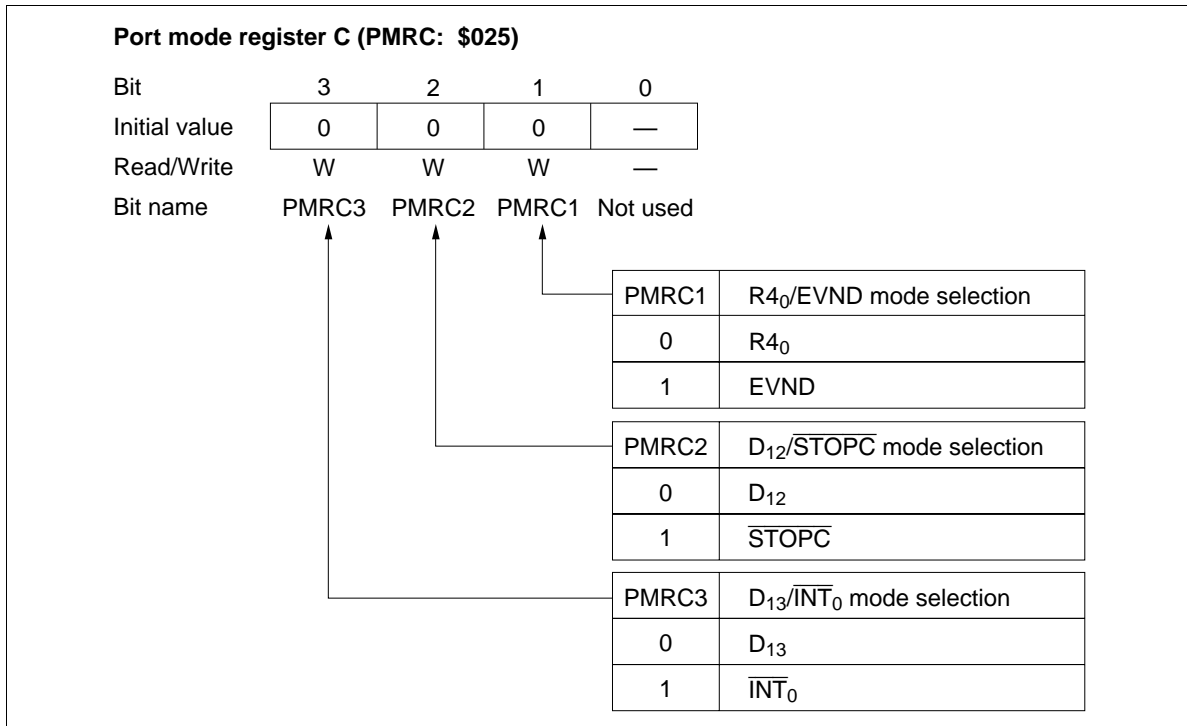

Figure 50 Port Mode Register C (PMRC)
- Port mode register C (PMRC: \$025): Write-only register that selects R4_v/EVND pin function as shown in figure 50. It is reset to \$0 by MCU reset.